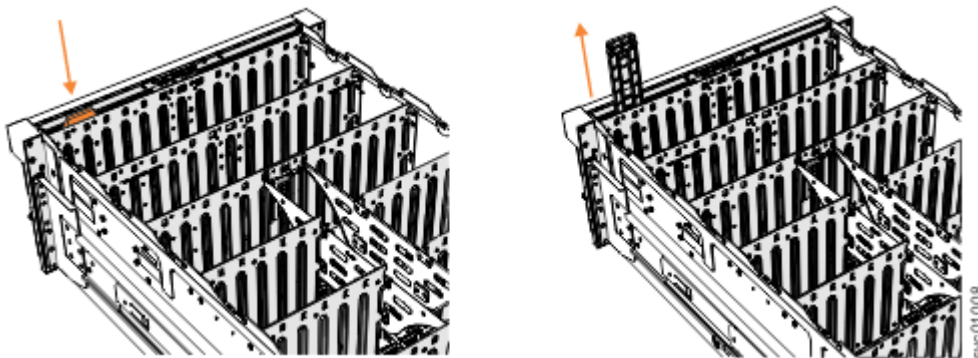

Figure 128. Removing the display panel assembly
3. Press the release tab at the top of the display panel assembly, as shown in Figure 128 on page 109.